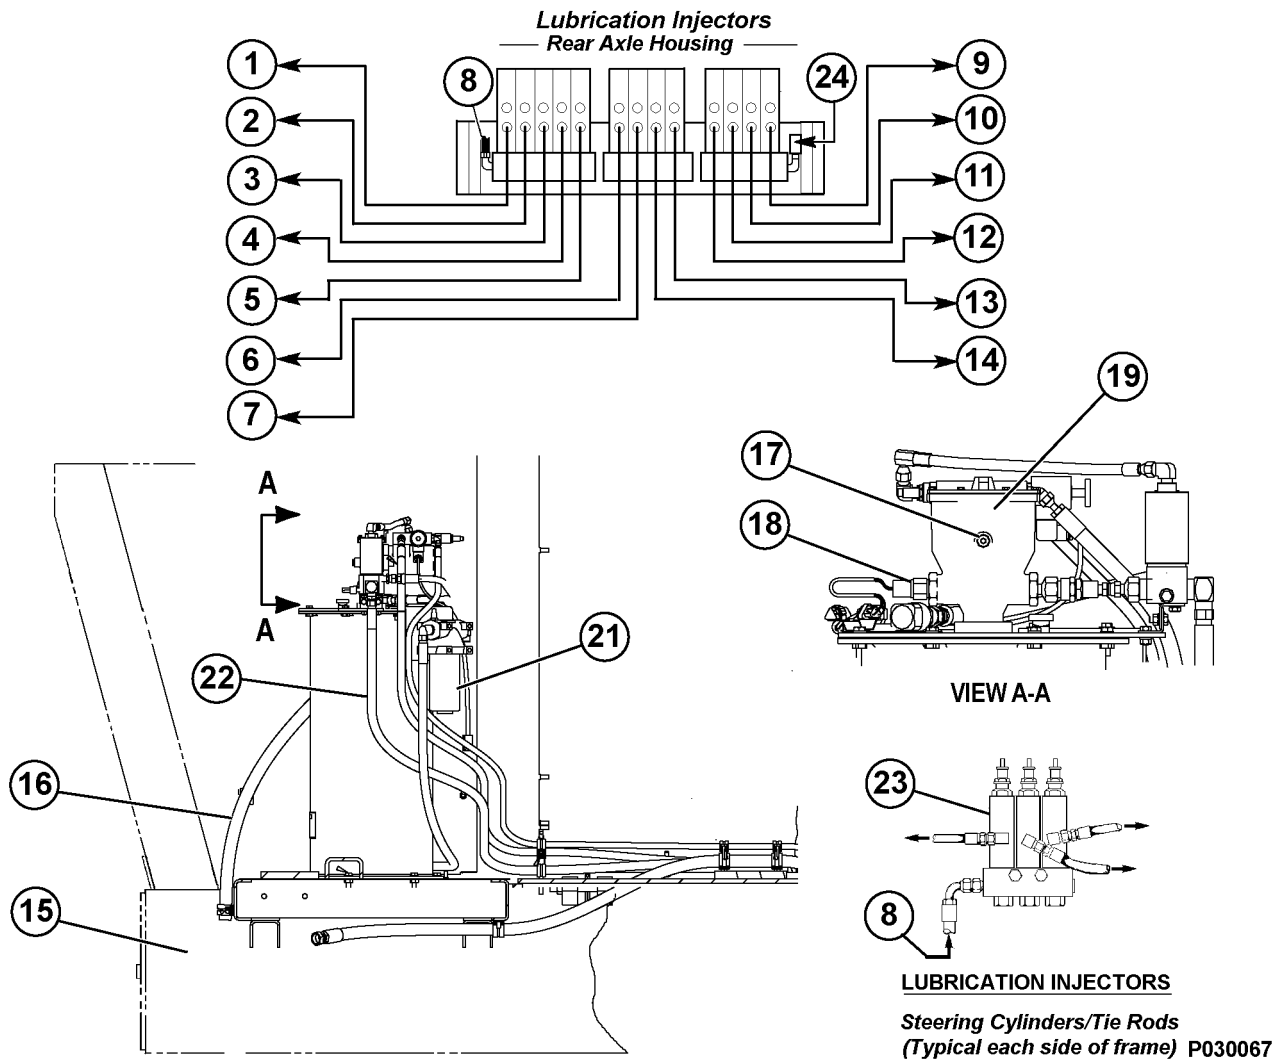
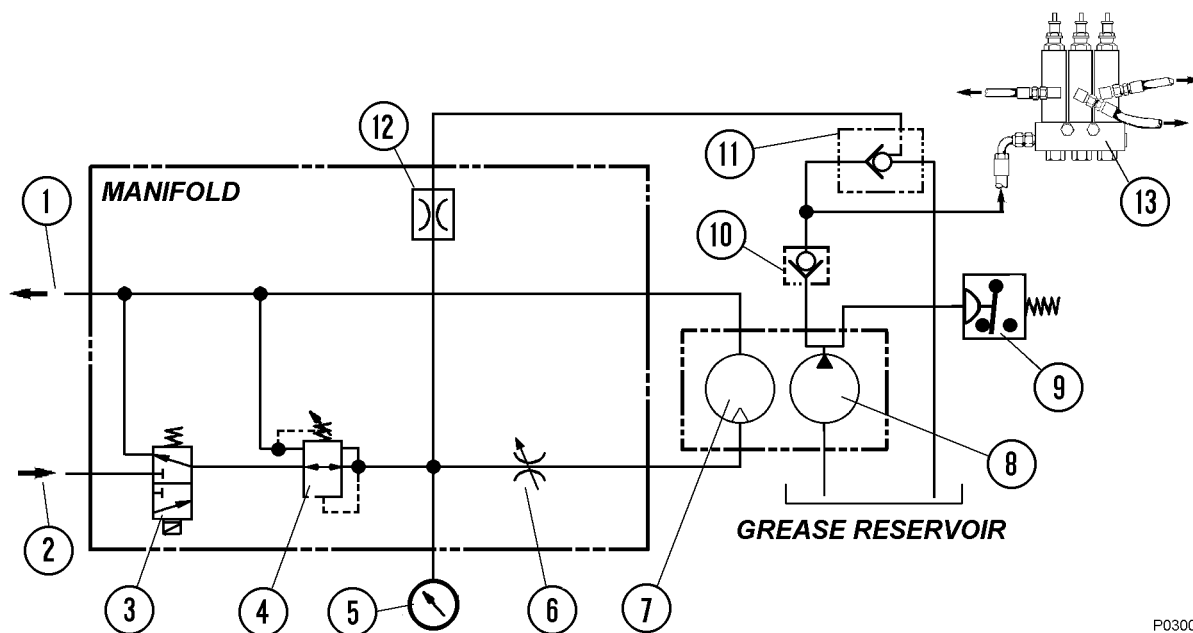

FIGURE 42-2. AUTOMATIC LUBRICATION SYSTEM INSTALLATION
FIGURE 42-3. HYDRAULIC SCHEMATIC
Filter assembly (21, Figure 42-2) mounted on the grease reservoir filters the grease prior to refilling the reservoir from the shop supply. A bypass indicator alerts service personnel when the filter requires replacement.
NOTE: The pump crankcase oil level must be maintained to the level of the pipe plug (17, Figure 42-2). If necessary, refill with 10W-30 motor oil.
The solid state lubrication cycle timer provides a 24 VDC timed-interval signal to energize solenoid valve (3, Figure 42-3) providing oil flow to operate the grease pump motor. This timer is mounted in the Electrical Interface Cabinet.
Pressure switch (18, Figure 42-2) is a normally open switch set at 17,237 kPa (2500 psi). This switch de-energizes the pump solenoid relay when the grease line pressure reaches the switch pressure setting, turning off the motor and pump.
Pressure switch (24, Figure 42-2) is a normally open switch set at 13,789 kPa (2000 psi). This switch monitors grease pressure in the injector bank on the rear axle housing. If the proper pressure is not sensed within 60 seconds (switch contacts do not close) a warning lamp circuit to notify the operator a problem exists in the lube system.
Each injector (23, Figure 42-2) delivers a controlled amount of pressurized lubricant to a designated lube point. Refer to Figure 42-2 for locations.
2. The timer provides 24 VDC to energize solenoid valve (3, Figure 42-3), allowing hydraulic oil provided by the truck steering pump circuit to flow to the pump motor and initiate a pumping cycle.
3. The hydraulic oil pressure from the steering circuit is reduced to 2241 - 2413 kPa (325 - 350 psi) by pressure reducing valve (4) before entering the motor. In addition, the amount of oil supplied to the pump is limited by flow control valve (6). Pump pressure can be read using pressure gauge (5) mounted on the manifold.
4. With oil flowing into the hydraulic motor, the grease pump will operate, pumping grease from the reservoir to injectors (13), through check valve (10), and to vent valve (11).
6. When grease pressure reaches pressure switch (18, Figure 42-2) setting, the switch contacts will close and energize the relay RB7-K5, removing power from the hydraulic motor/pump solenoid and the pump will stop. The relay will remain energized until grease pressure drops (pressure switch opens again) and the timer turns off.
7. After the pump solenoid valve is de-energized, hydraulic pressure in the manifold drops and vent valve (11, Figure 42-3) will open, releasing grease pressure in the lines to the injector banks. When this occurs, the injectors are then able to recharge for the next lubrication cycle.